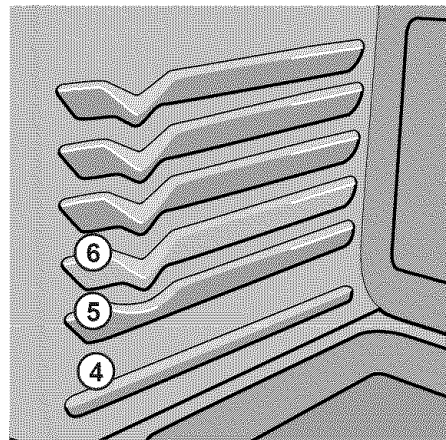

Fig. 2
- Use the recommended pans and oven rack positions for the type of meat being prepared - *p.23 Figs. 2 & 3.*
2. Arrange the interior oven rack -*p. 23 Figs. 2 & 3*- for position recommendations. Be sure to place the prepared food and pan directly under broil element. **Close the oven door.**